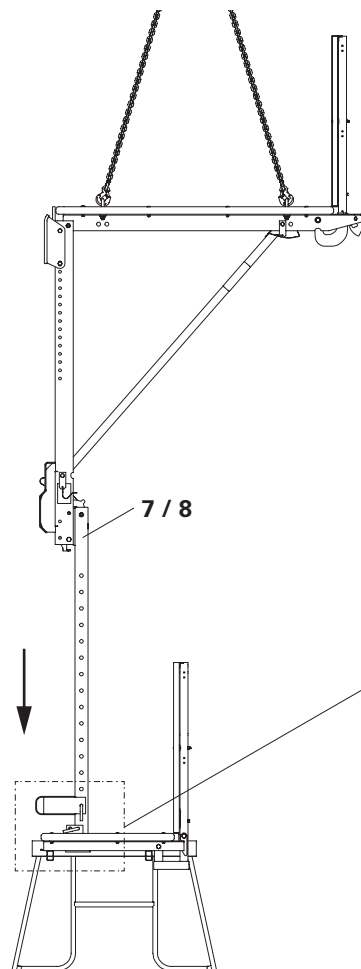

Fig. A6.02
1. Release safety pins (4.3) and insert main platform, with support extensions fitted, into the openings in the decking with the crane. (Fig. A6.02)